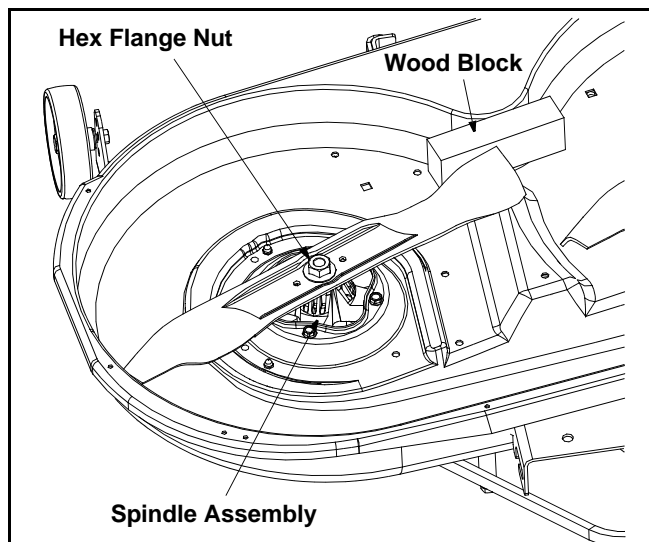

Figure 21
- Place a block of wood between the center deck housing baffle and the cutting blade to act as a stabilizer. See Figure 21.
- Use a 15/16" wrench to remove the hex flange nut that secures the blade to the spindle assembly. See Figure 21.